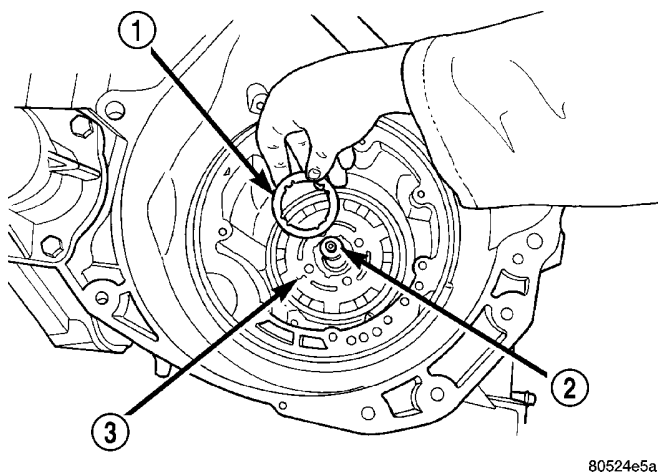

Fig. 38 No. 9 Thrust Washer
(38) Remove #9 thrust washer from rear planetary gear assembly (Fig. 38).